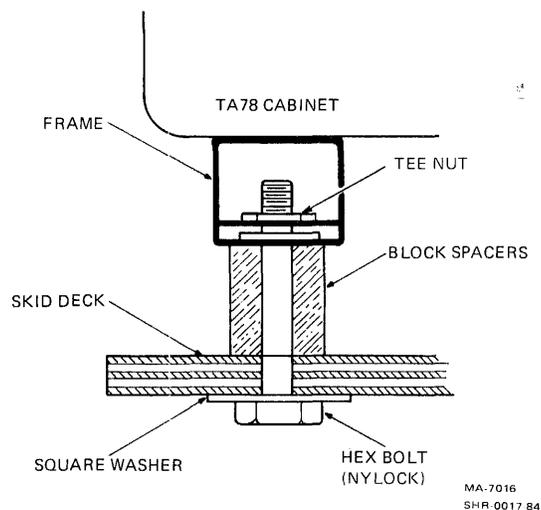

Figure 2-4 TA78 Mounting for Shipment
2. Remove four hex bolts and square washers which hold unit to skid (Figure 2-4). Dispose of skid blocks and hardware.